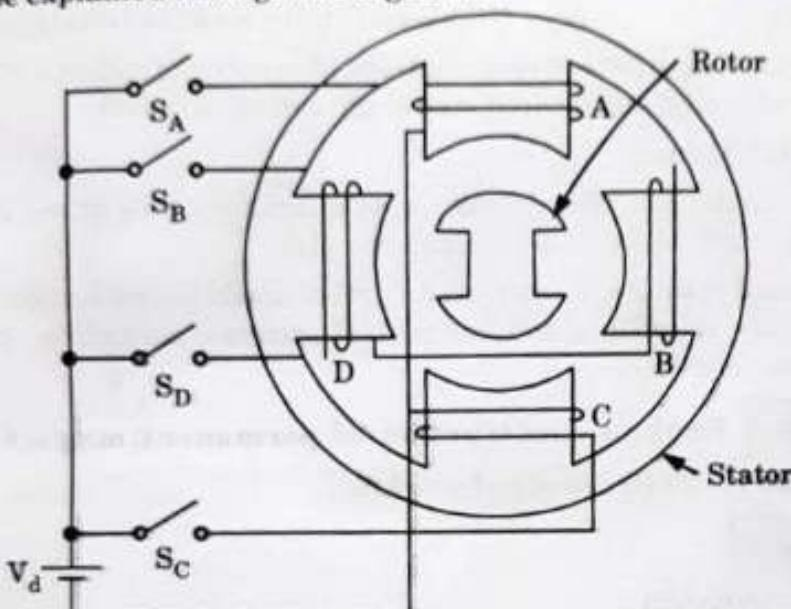

Fig. 2.2.1. 4 ϕ , 4/2 pole variable reluctance stepper motor.
C. Operation : The elementary operation of a variable reluctance motor can be explained through the Fig. 2.2.1.